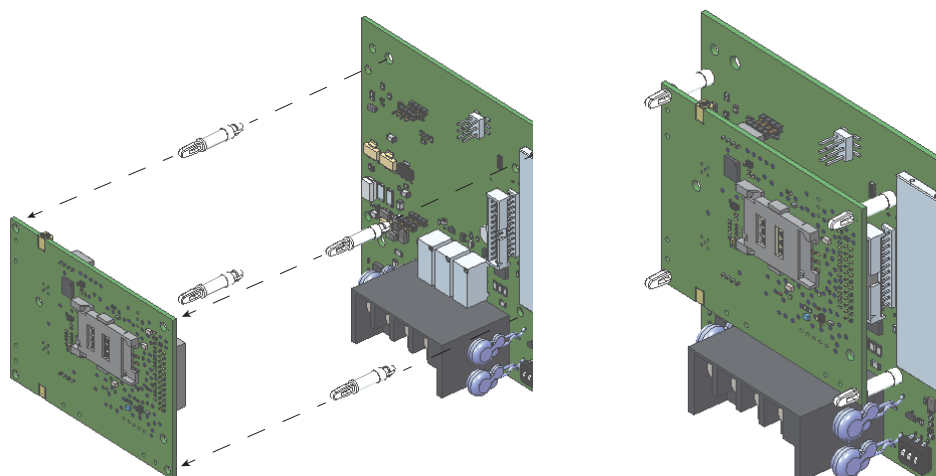

Figure 2. Connecting the cellular module to the CSGM
2. Push the four nylon standoffs through the bottom of the cellular module. The longer snap lock ends click through the top of the cellular module, see Figure 2.